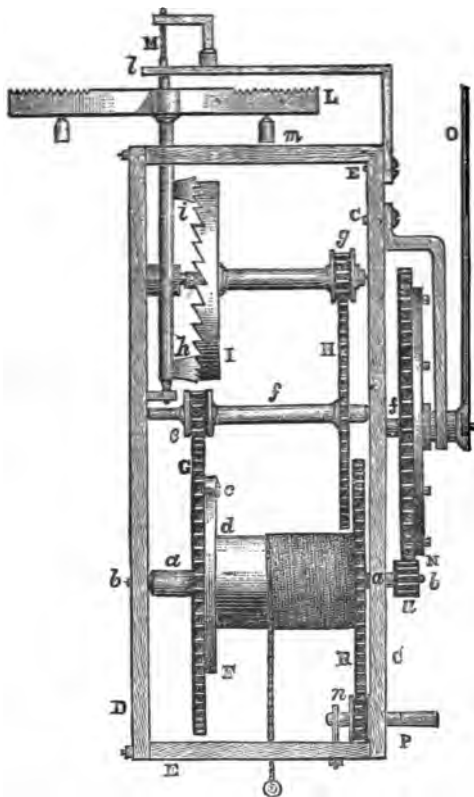
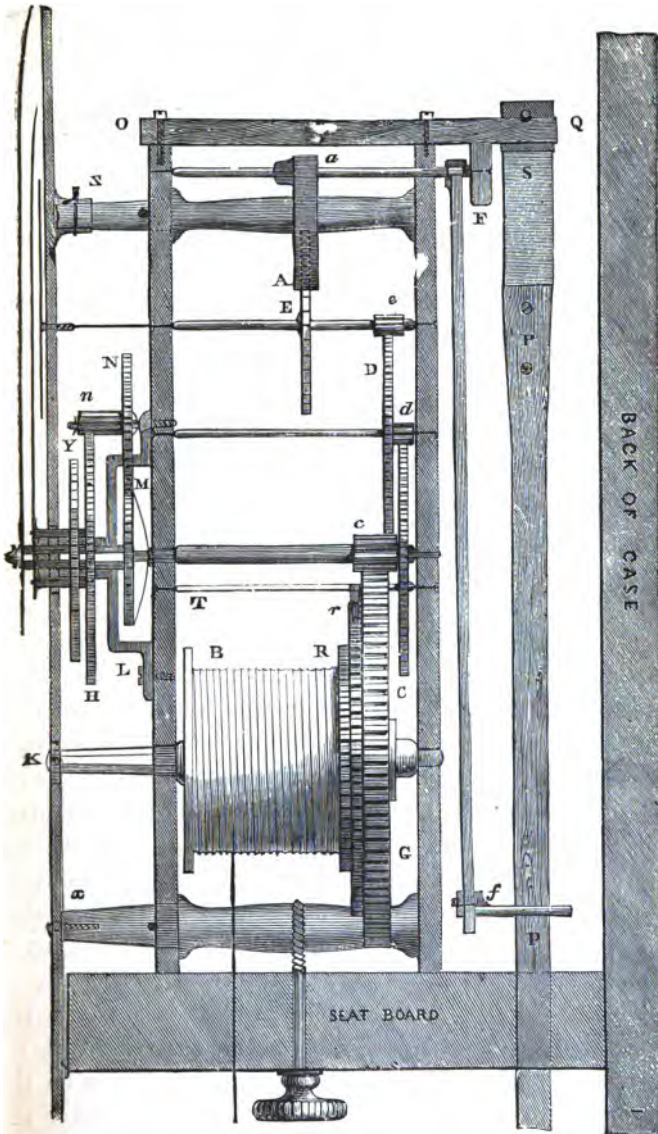

FIG. 12.
FIG. 14.—Movement of an Ordinary Long Case Clock.
**T**HE illustrations given in this chapter show the construction of ordinary English clocks. Fig. 12 shows one of the first clocks of which we have any authentic description. It was made for Charles V. of France, in 1370. The vertical verge, shown in Fig. 12, was afterwards placed horizontally so that it might carry a weighted bob, or pendulum. To effect this alteration the scape-wheel had to be placed with its axis vertical, and it was driven by a crown-wheel in the place of the wheel H. The illustration on page 63 shows the movement of an ordinary long-case hall-clock. These are frequently to be found in country houses, and are almost invariably heirlooms, in the conventional sense.
The clock made by Henry de Wyck, and briefly mentioned in a previous chapter, is shown by the illustration, Fig. 12. This is handed down to us as one of the most ancient balance clocks, and a description of its going parts will be interesting for comparison with that shown by Fig. 14, which is a superior kind of house clock and will be described later on.
Referring to Fig. 12, and describing it minutely, we shall get a knowledge of the various parts, their names and functions. Reid's "Treatise on Clock and Watch-making," published upwards of half a century ago, contains the illustration here copied, and also the description.
the other end shaped to form a shoulder, with a pivot-like projection. A pin, put diametrically through this projecting part, secures the second plate. A glance at Fig. 14 will show this.
In Fig. 12 the action of the weight necessarily tends to turn
When the clock has been in action sufficiently long, the cord by which the weight is suspended wholly runs off the cylinder. Then the clock requires to be "wound up." A key, having a square hole in its cannon to fit the square arbor P, is used, and by this key the weight is wound up. The wheel R and the ratchet-wheel F, together with the barrel, turn independently of the wheel G. The ratchet and click motion have already been explained. On ceasing to wind, the pressure of the weight against the click forces the wheel G to turn with the cylinder, and so transmits the power through the train to the 'scape-wheel. The small pinion *n*, on the arbor P and gearing with R, is not used in modern clocks, as may be seen on reference to Fig. 14.
The going part of a common regulator, or a house-clock of superior character, is shown by Fig. 14. Sir Edmund Beckett, in his "Clocks, Watches and Bells," gives an illustration from which the block herewith published is borrowed. The movement is that commonly found in the long cased hall-clocks—now only found as remnants of a past age, yet still very plentiful. These clocks appear to have an almost endless period of existence. They are made on far better principles than can be carried into effect in the confined space of mantel-clocks. Long, heavy pendulums give much greater regularity in action, and they are not so easily affected by irregularity in the motive-power.
Referring to Fig. 14, A *a* is one of the pallets on the arbor *a*, and F *f* is the crutch and fork, which usually embraces the